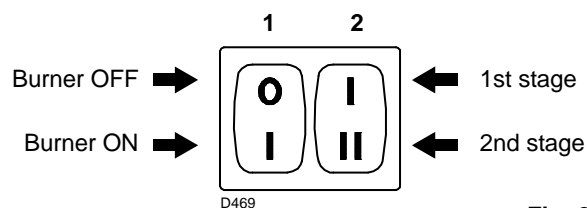

Fig. 27
- switch 1)(Fig. 27) to the "Burner ON" position;
- switch 2)(Fig. 27) to the "1st stage" position.
Now turn switch 2)(Fig. 27) to the 2nd stage position: the servomotor will open the air damper and, at the same time, the gas butterfly valve at 90°.
Turn switch 2)(Fig. 27, page 25) to the 1st stage position: the servomotor 1) will close the air damper and, at the same time, will also close the gas butterfly valve to 15° (i.e. to the factory setting).
- If it is necessary to increase it, pass to 2nd stage by activating switch 2)(Fig. 27, page 25) and slightly increase the angle of the orange lever with small, regular movements (i.e. bring it from an angle of 15° to 17° - 19°....).
- Switch off the burner by means of the switch 1)(Fig. 27, page 25);